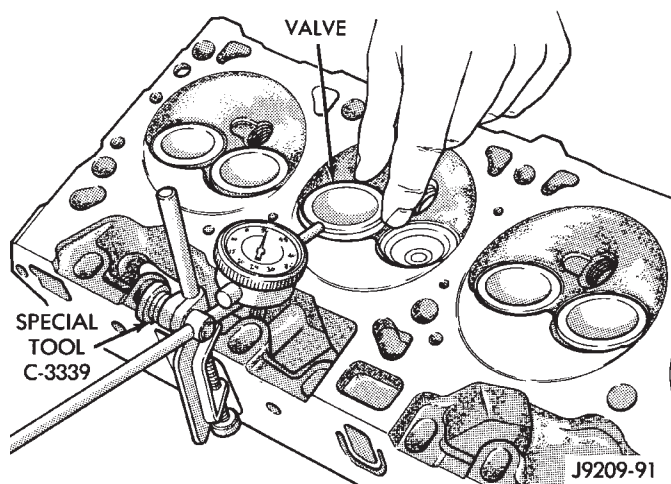

Fig. 51 Measuring Valve Guide Wear
(2) Attach Dial Indicator Tool C-3339 to cylinder head and set it at right angle of valve stem being measured (Fig. 51).
(3) Move valve to and from the indicator. The total dial indicator reading should not exceed 0.432 mm (0.017 inch). Ream the guides for valves with over-size stems if dial indicator reading is excessive or if the stems are scuffed or scored.